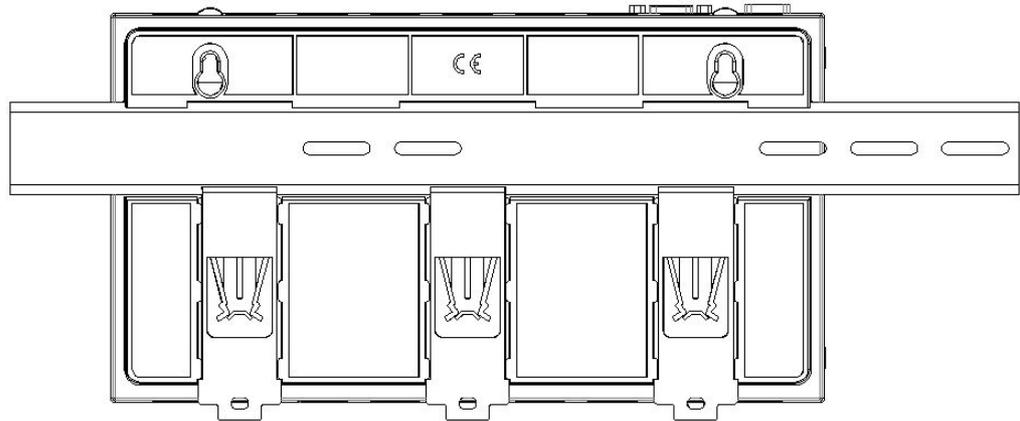

Figure 3.1 DIN-Rail installation Location
1. Install ECU-1911 on the DIN-Rail, according to the following location. (Figure 3.1)